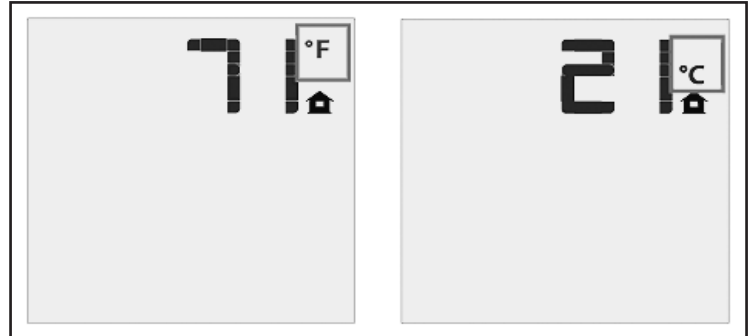

Figure 8: Remote Control Display in Farenheit and Celcius.
3. Remove the two (2) screws (located on the outside edges of the burner) that hold the burner to the chassis inside the fire box, see Figure 8. Remove the burner tray from the firebox.